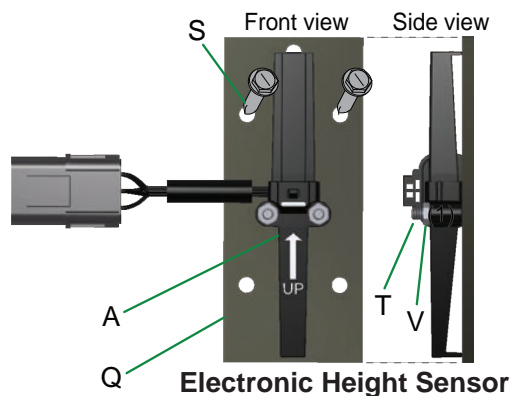

fig. 2
1. Using the socket cap screws (T) and nylon lock nut (V), attach the electronic height sensor (A) to the bracket (Q). (Fig. 2)